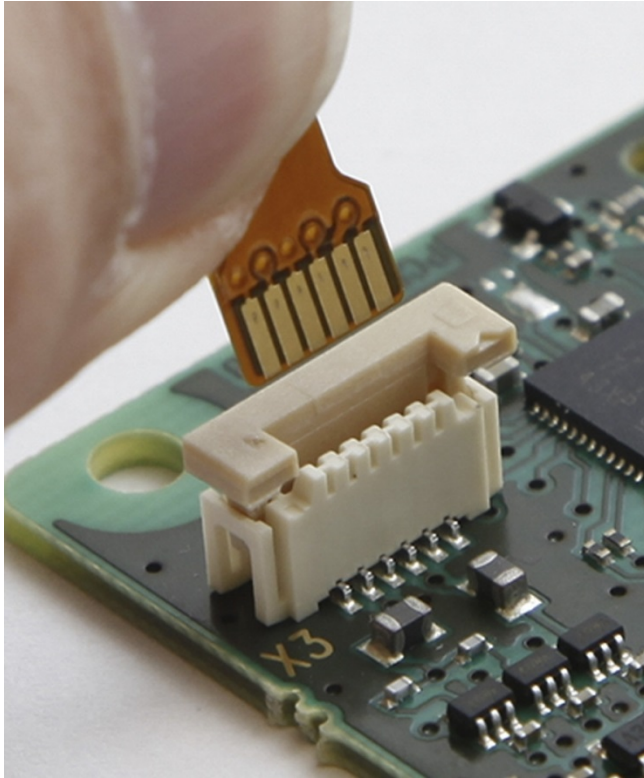

Figure 7 Connecting the Probe Cable
5. Plug in the cable, with the metal contacts facing as shown in Figure 7 below.